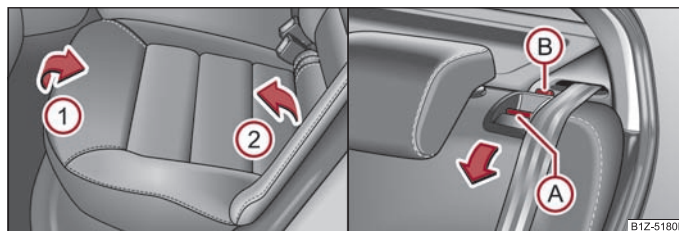

Fig. 60 Fold the seat cushion forwards/unlock the seat backrest
- Pull up the seat cushion in direction of arrow (1) and fold forwards in direction of arrow (2) ⇒ fig. 60.
- Press the unlocking knob (A) and fold the seat backrest forwards. ▶
- Make sure that the red pin (B) is covered ⇒ page 68, fig. 60.